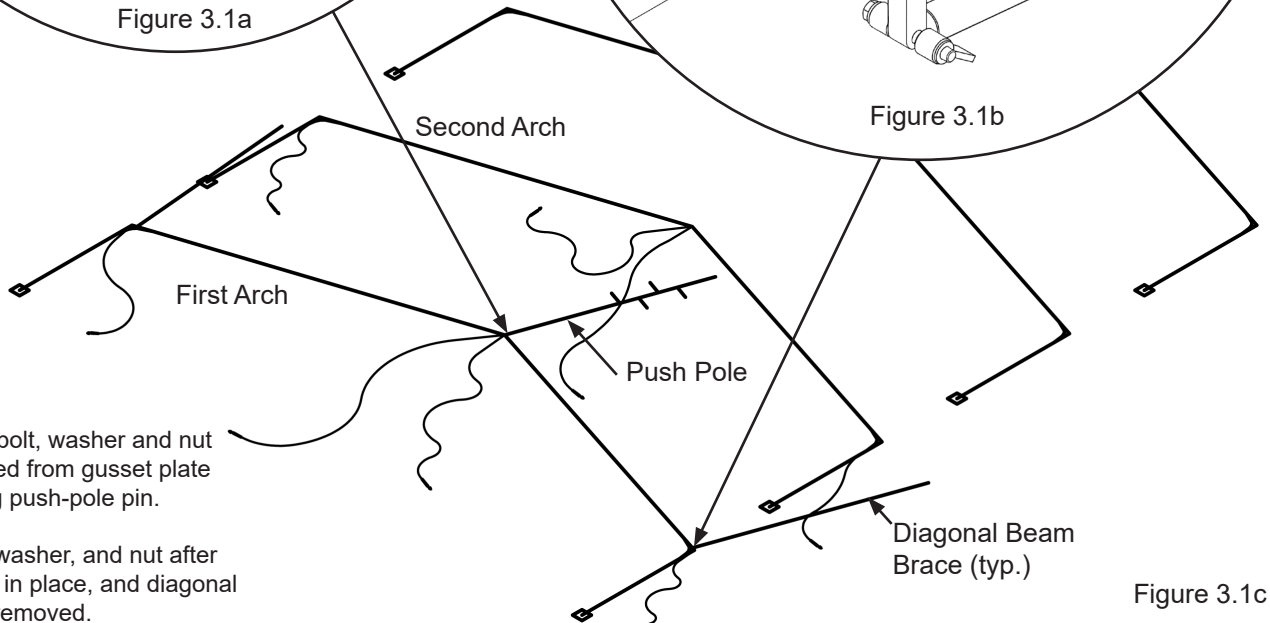

Figure 3.1c
3.1.2 Lay both of the Diagonal Beam Braces along and outside the second arch base plates as shown in **Figure 3.1c**.